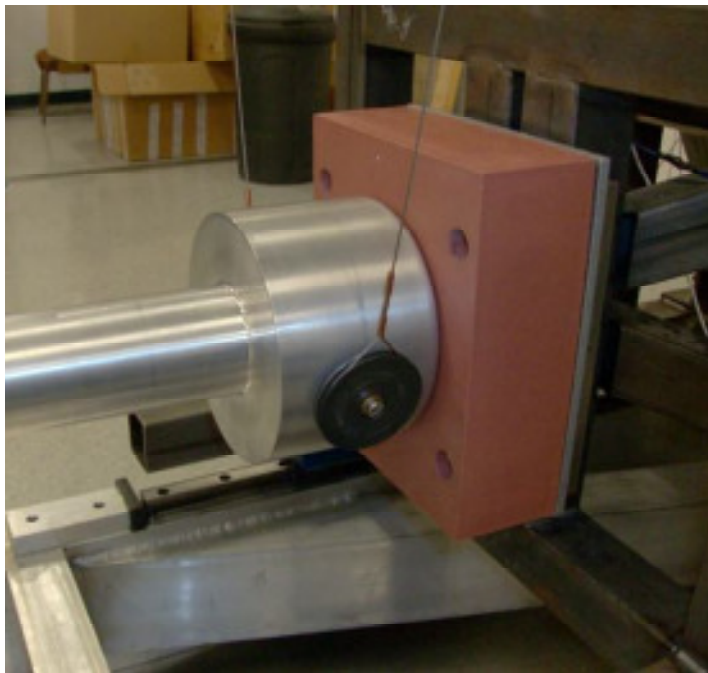

Figure 4 - Head Impact Pad Mounted on Sled
- Mount the head impact pad directly on to the face of the sled as shown in Figure 4.